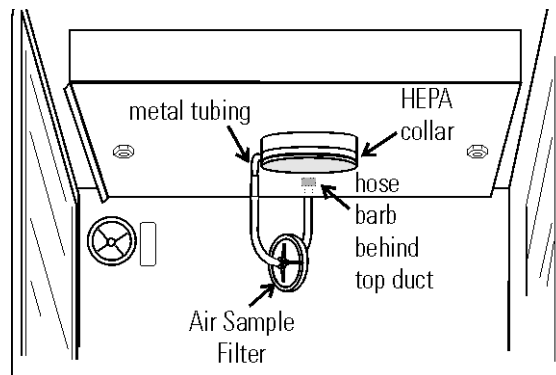

Figure 1-13. Air Sample Filter Installation
3. Insert the other end of the filter assembly onto the metal tubing on the top duct. Refer to the Figure 1-13.
3. Install the filter as shown in Figure 1-13. Refer to Section 5 for HEPA filter maintenance.